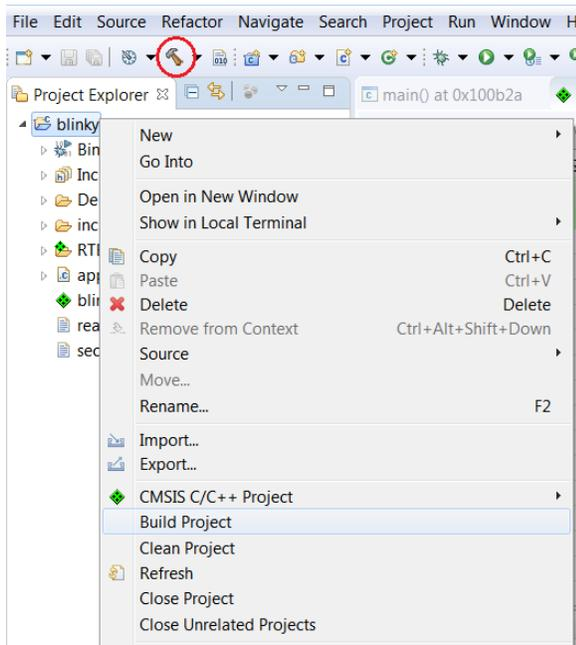

Figure 13. Starting to Build a Project
1. Right click on the folder for *blinky* and click **Build Project**. Alternatively, you can select the project and click the hammer icon shown in Figure 13 on page 16.